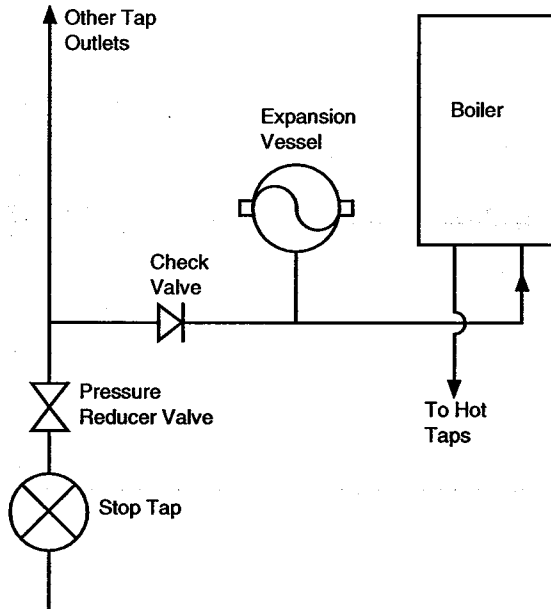

Fig. 6
### 6.8 Domestic Hot Water Circuit (Fig. 6)
3. A single check valve must be fitted as shown in Fig. 6 to prevent backflow to the supply pipe and to ensure the efficient operation of the expansion vessel which is required to accommodate the thermal expansion of the water.